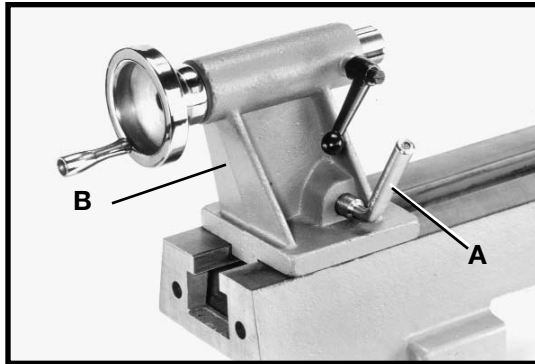
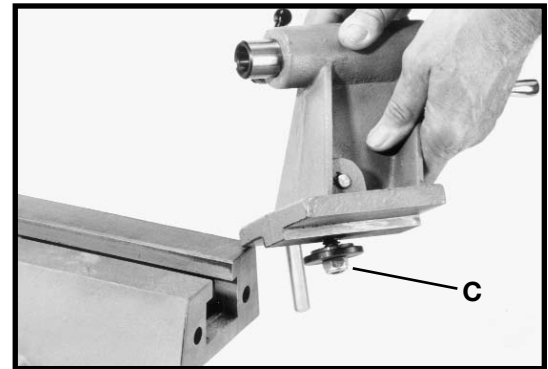

Fig. 24
Fig. 25
1. To slide the tailstock along lathe bed, loosen locking lever (A) Fig. 24, slide tailstock (B) into position, and tighten lever (A). The clamping device for the tailstock has been set prior to shipping. However, if the clamping action needs adjustment, remove the tailstock and tighten (or loosen) nut (C) Fig. 25 on the bottom of the tailstock. Re-attach the tailstock to the lathe bed.